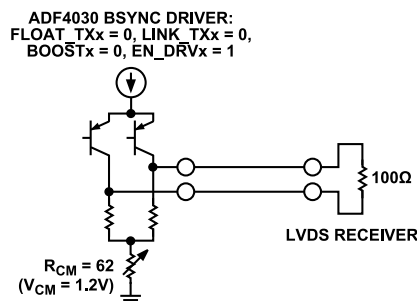

Figure 38. ADF4030 BSYNC to LVDS Receiver Connection
- An LVDS receiver (Figure 38 and Figure 39)